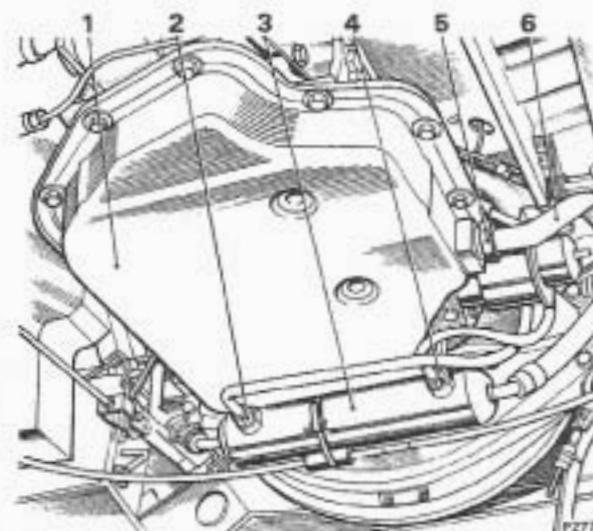

FIG. T132 TRANSMISSION SUMP
5. Unscrew the two unions securing the transmission fluid inlet and outlet pipes to the heat exchanger (see Fig. T132), withdraw the pipes and collect any fluid in a container. Remove the four setscrews (two at each end) securing the heat exchanger to the bell housing bottom cover. Lower the heat exchanger on the flexible coolant pipes to gain access to the two forward sump retaining setscrews.